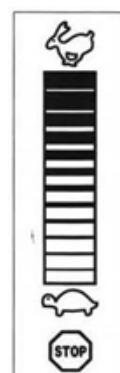

Figure 3
3. Mount the soft shaft: plug the soft shaft on the side of rotater from the dashboard, then rotate it tight to fix it (Fig. 3).
The throttle control is located on the engine. It regulates the speed of the engine and will shut off the engine when pushed down completely. See Figure 3.